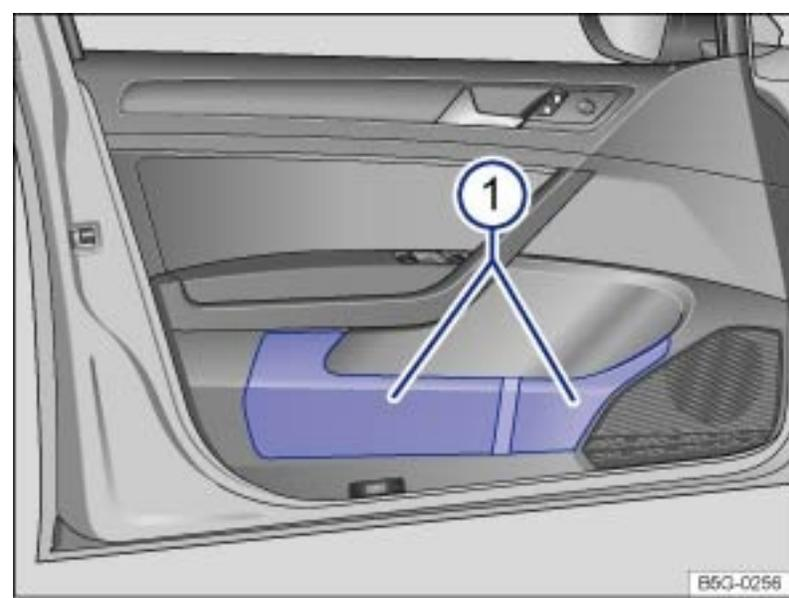

Fig. 115 In the driver door: Storage compartment.
There is a storage compartment in each vehicle door → Fig. 115 ①